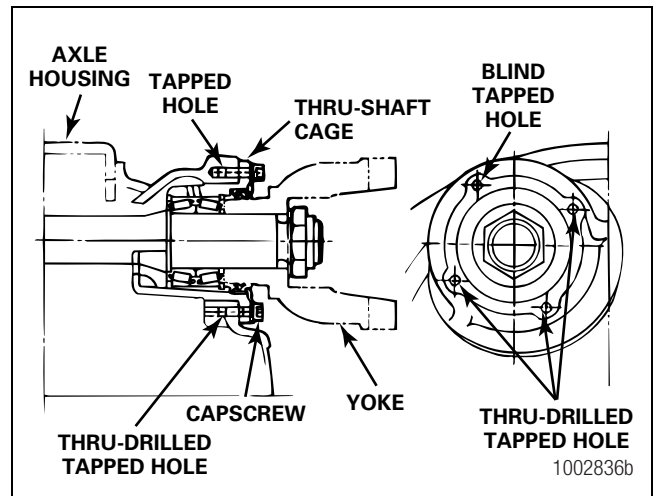

Figure 5.120
9. Apply a 0.25-inch (6 mm) length bead of Loctite® 518 sealant in the thru-drilled tapped holes located at the two, five and eight o'clock positions. Figure 5.120.